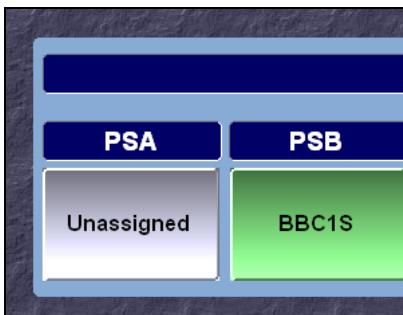
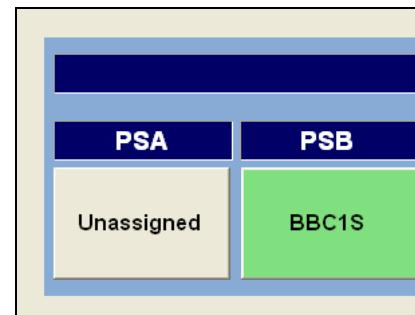

Figure 2 Styles, States & Modern Skin
Figure 3 Styles, States & Traditional Skin
**Figure 2 Styles, States & Modern Skin** shows two controls set with style ‘label’, in this case with white text on a blue background. It also shows two buttons with the same style but different states, indicated by the colour change. **Figure 3 Styles, States & Traditional Skin** shows the same panel with a different skin applied, but with the same styles and states.